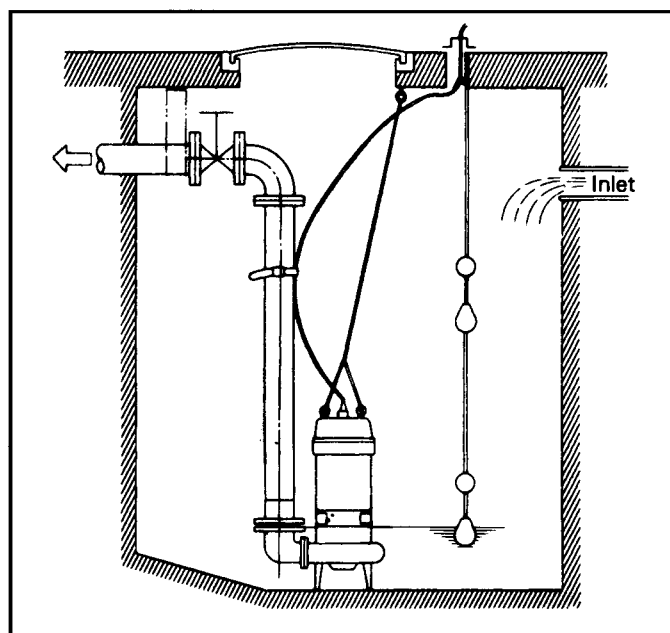

Fig. 1
5. If there is a flow of liquid inside the tank, support the cable where appropriate (See Fig. 1).